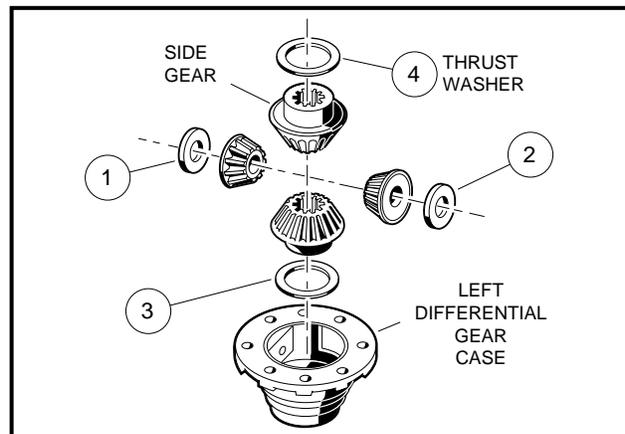

Figure 16-20 Left Differential
- 9.7. Remove the differential gears and thrust plates (34 and 37) (**Figure 16-3, Page 16-3**) or (30 and 27) (**Figure 16-4, Page 16-4**). **See also Figure 16-20.**